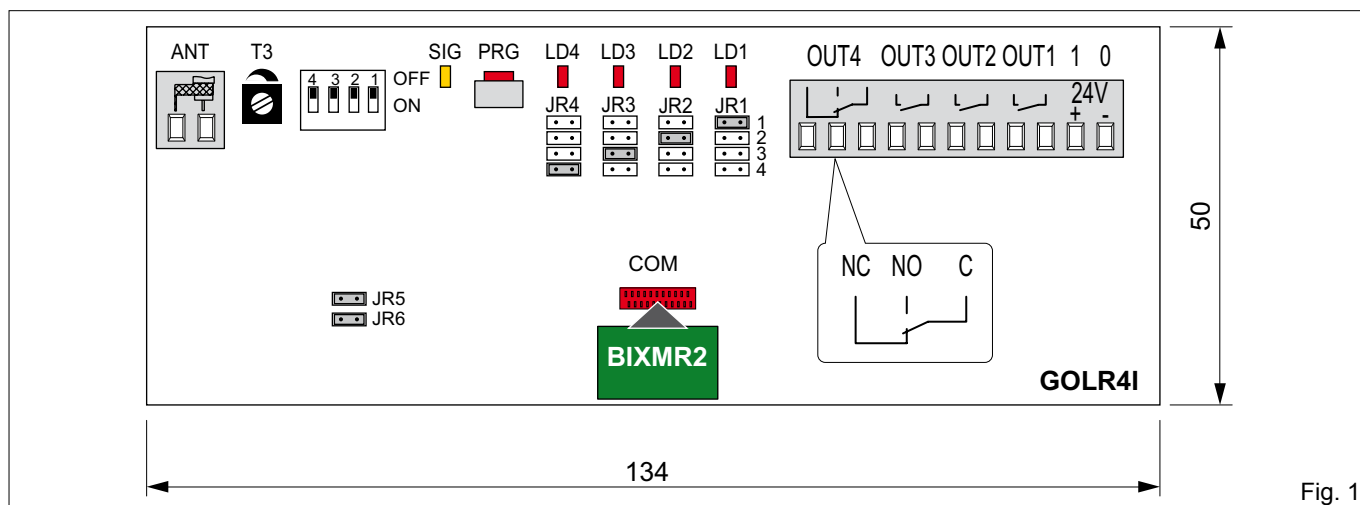

Fig. 1
2. RICEVITORE (fig. 1)
3. SELEZIONE CANALI-USCITE (fig.1)
2. RECEIVER (fig. 1)
3. CHANNELS-OUTPUTS SELECTION (fig.1)